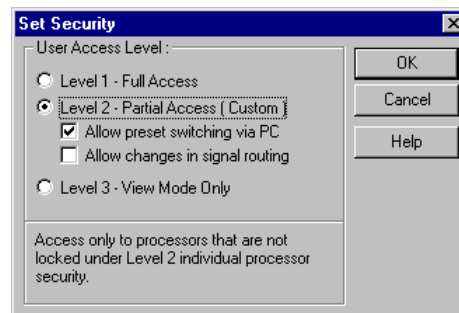

Figure 60 – Set Security Dialog
5. The Set Security dialog appears, as pictured to the right in figure 60.